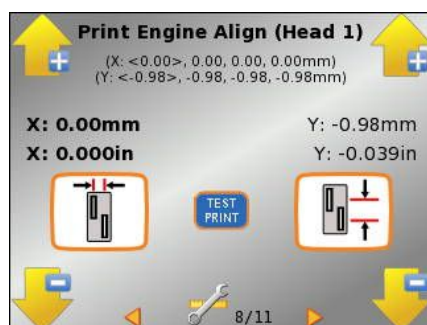

Fig. 22: Setup Wizard print-engine Align screen fro head 1 (Cyan)
- Print-engine Align (Fig. 22) : a screen to make adjustments between 2 print-engines of the same colour. For example if a white line appears in the middle of the print height for the magenta colour, then the y value for Print Engine Align (Head 2) should be decreased (F6)